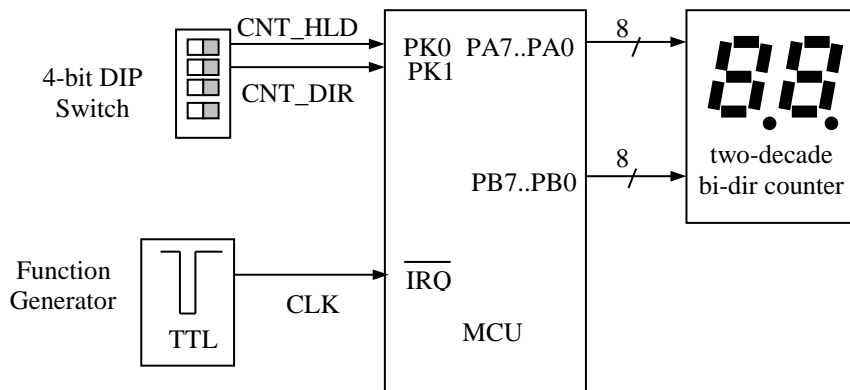

Figure 1
- 1) A “clock tick” circuit, which is conceptually a flip-flop Q driven by the hardware signal CLK. This clock tick will be displayed using a single *decimal point* on a 7-segment display. For every clock tick received, the decimal point should pulse on and off (Use set up in Figure 1).
The state of this counter is to be displayed using two 7-segment LED displays. See Figure 1.